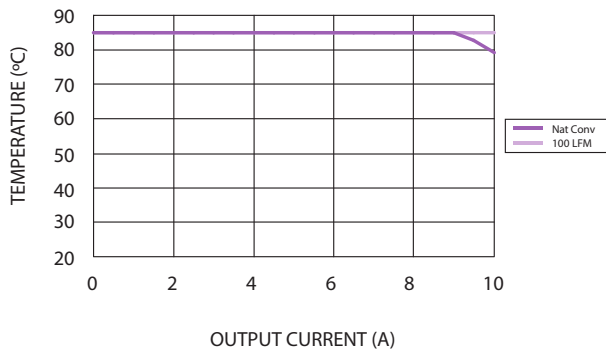

Figure 6 - Safe Operating Area
2. See Figures 1, 2 and 3 for safe operating curves of PTH12060W and Figures 6, 7 and 8 for safe operating curves of PTH12060L.